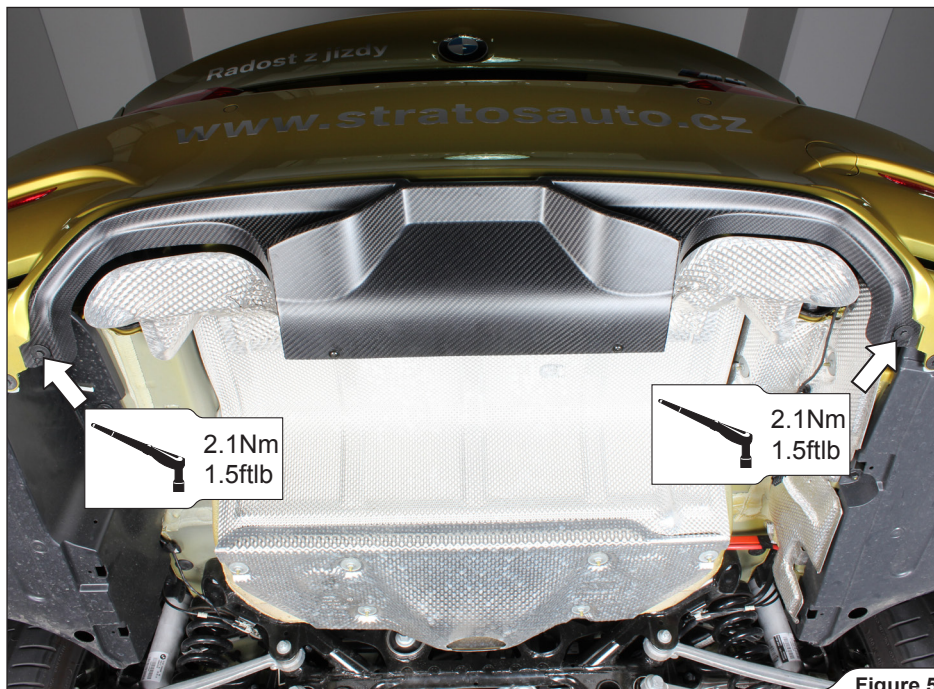

Figure 5
2. Install the Akrapovič carbon fiber diffuser into the rear bumper and tighten the marked stock bolts (Figure 5).